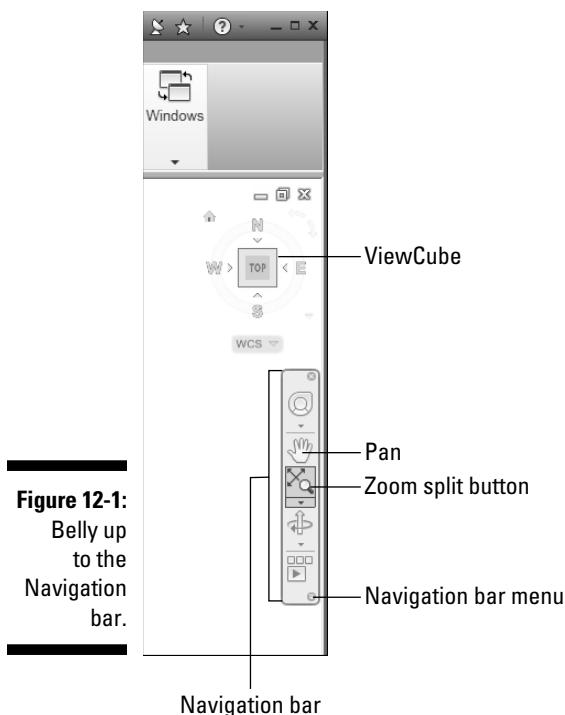

Figure 12-1:
The Navigation bar is linked by default to another interface component named the ViewCube. The ViewCube was present in AutoCAD 2010, but only in 3D viewing modes; it's now available in 2D Wireframe mode as well. (AutoCAD LT users get the Navigation bar, but not the ViewCube.) Figure 12-1 shows the upper-right corner of the AutoCAD window with the ViewCube and Navigation bar in their default locations.
- ✓ **To turn off navigation buttons:** Open the Navigation bar's menu by clicking the down arrow at its bottom-right corner (refer to Figure 12-1) and unchecking SteeringWheels, Orbit, and ShowMotion.